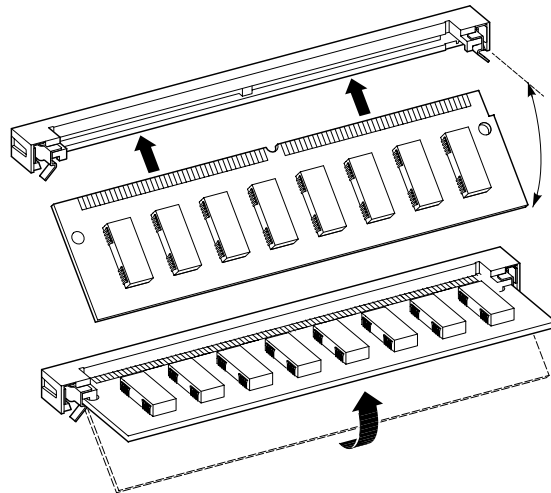

Figure 3-5. Installing a SIMM
3. Install the SIMM into the socket at a 45-degree angle (Figure 3-5). Be sure that the notch is oriented as shown. Rock the SIMM gently until it is seated evenly into the bottom of the socket. Tip the SIMM upright until both the retaining clips at the ends of the socket engage.